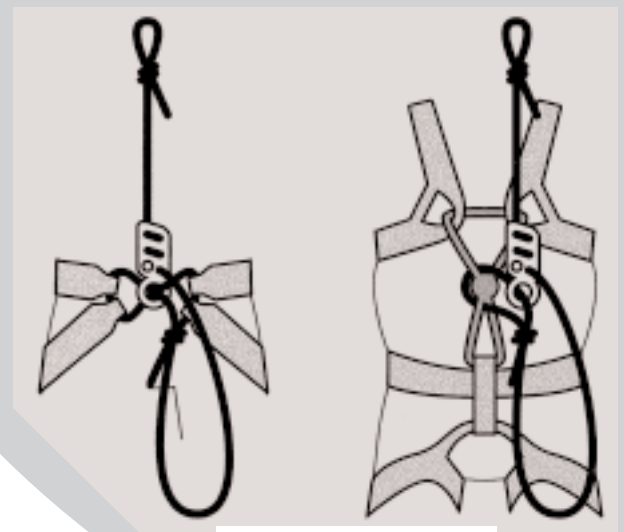

Fig. 7
- the part of the rope of the energy absorbing system which is foreseen to attach to the harness (see Fig. 7)